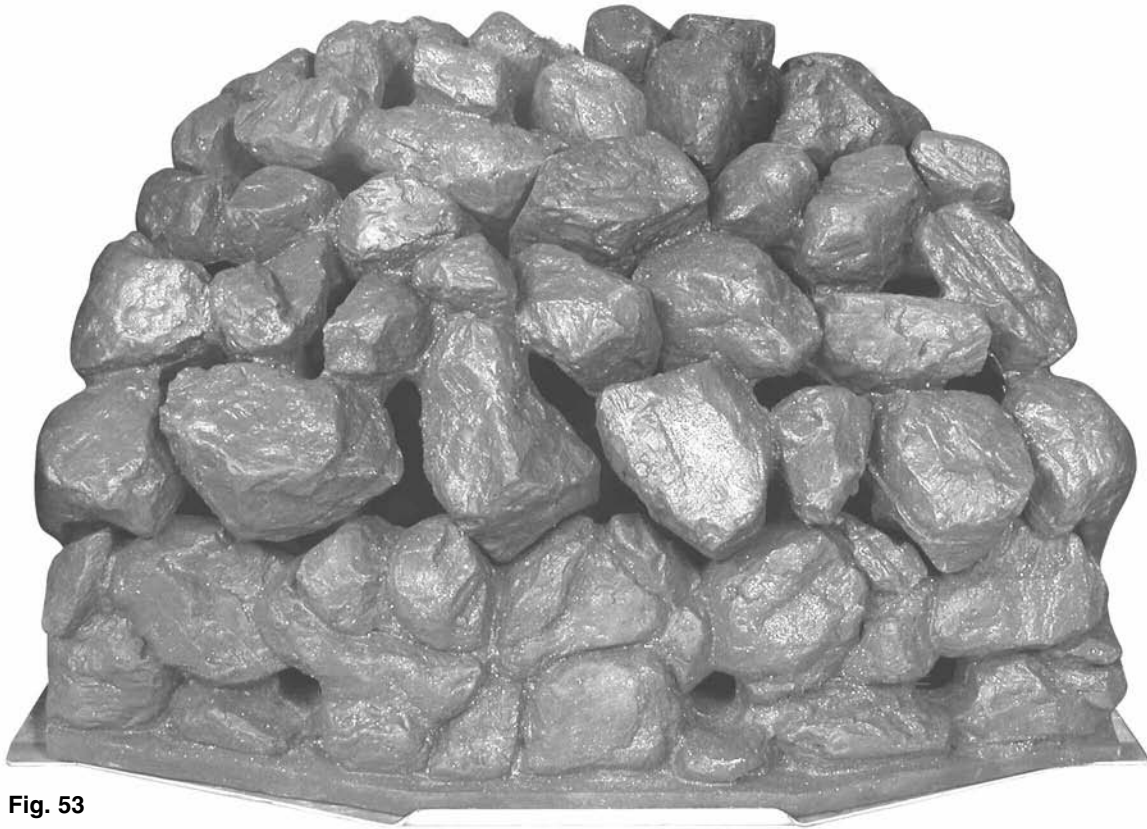

Fig. 53
5. Finally check that all the coal pieces are 'nested' together correctly (Fig. 53).